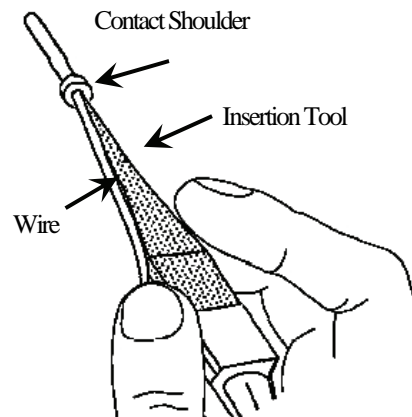

Figure 17. Inserting Contact into Insertion Tool
- d. Insert wire into insertion tool (Figure 17).